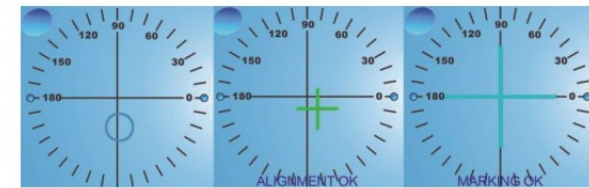

Figure6.3 Move the lens to make it alignment the target
2.Place and move the lens to bring the target close to the center of the alignment circle. as stated in figure 6.3, let the target  to the center of the alignment circle.
Specify method is show in chapter 1 of figure 6.3 measuring single lens